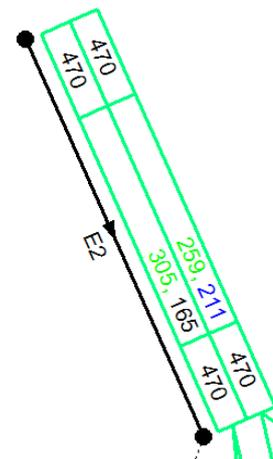

Figure 4.17 : Lane Flow Components Aggregated by Destination
- Lane Flow Components can be aggregated in a similar manner based on Route Destination as shown in Figure 4.17. Each number represents the total traffic in each Lane travelling to a Destination Zone. For example in the nearside Lane 259 PCU are travelling to Zone D and 211 PCU to Zone C.